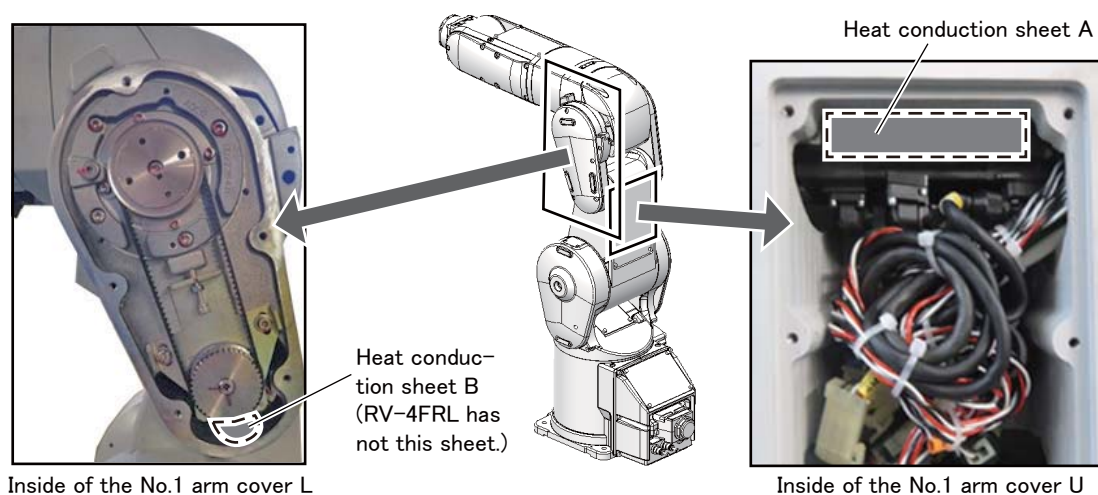

Fig.5-20 : Heat conduction sheet position
- 2) Remove the heat conduction sheet A stuck on the J3 axis motor (see Fig. 5-20). Be careful not to get any dust, etc. on the adhesive side.
Be careful not to shift the heat conduction sheet B (see Fig. 5-20).